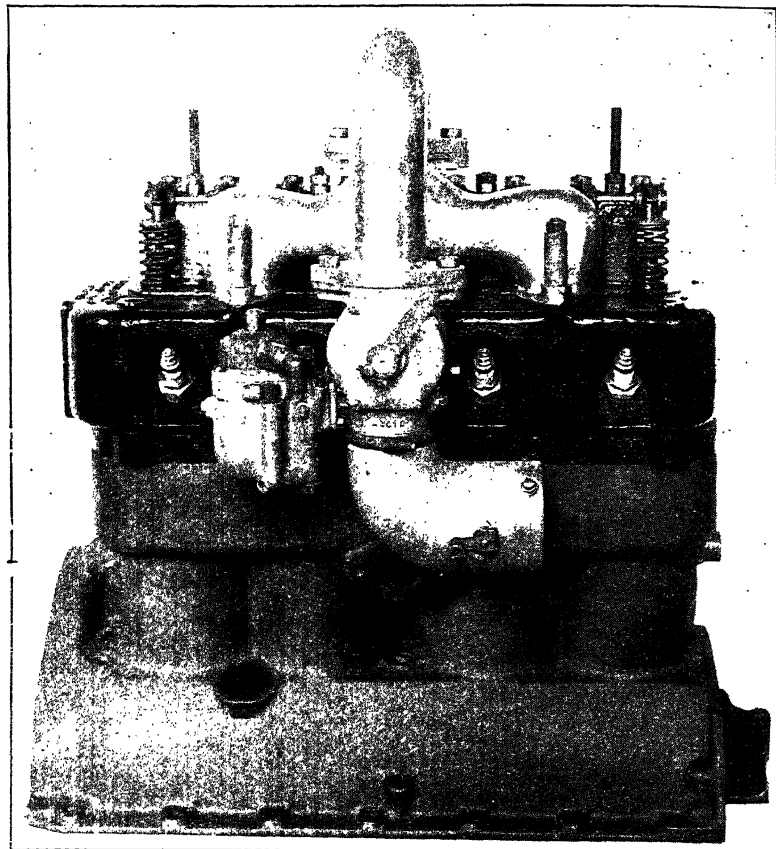

Fig. 104. Winfield Carburetor Fitted to a R and R Racing Head
**Installation.** The Winfield carburetor is adaptable to any type of engine or special cylinder head, as shown in Fig. 104. Special adapting flanges are often necessary to make the installation, and to this end the factory makes up special package installations that are complete for each model and make of motor.